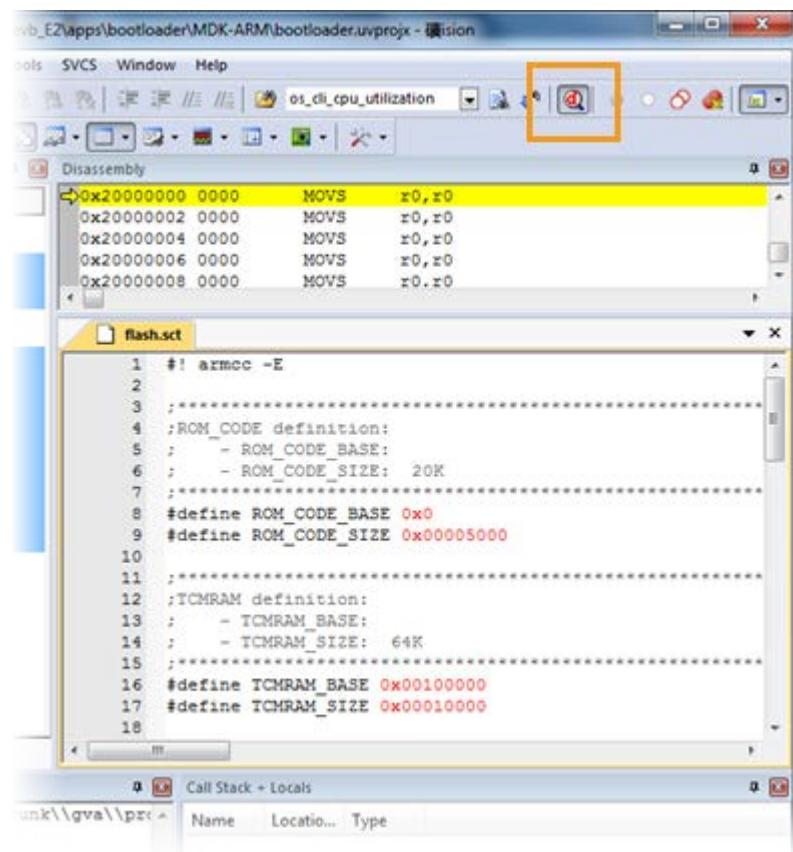

Figure 62. Debugging a project on Keil IDE
- 9) Click **Debug** to start debugging the project, as shown in Figure 62.